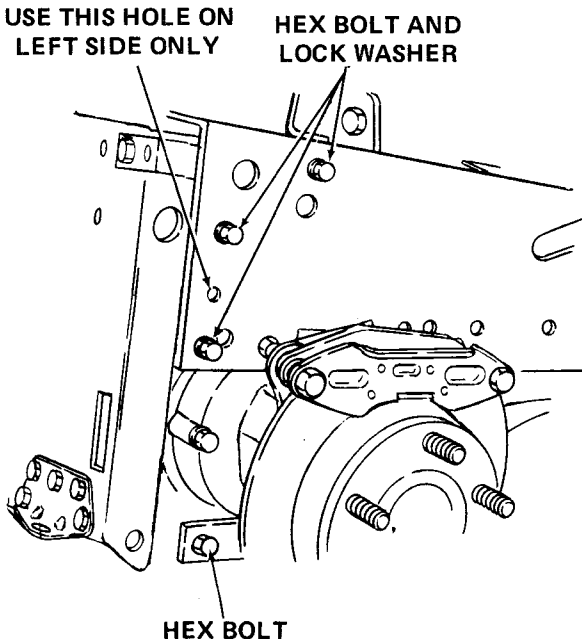
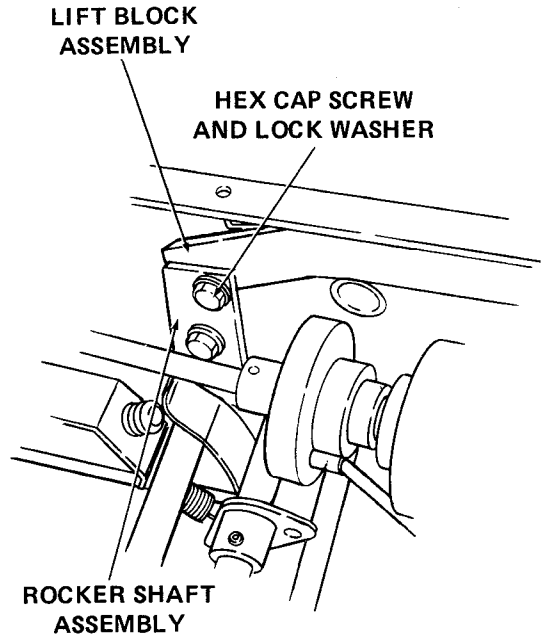

Figure A-14
Figure A-15
- 3. Install 3-point hitch plate (1) as follows. Refer to Figure A-14.
- b. Position 3-point hitch plate between tractor frame and secure to right side of frame with three hex bolts (L) and lock washers (B).
- 4. Connect front end of implement lift bar (2) as follows (applies to Model 388 only).
- a. Align holes in lift block assembly with rocker shaft assembly and secure with two hex cap screws (M) and lock washers (B). Refer to Figure A-15.